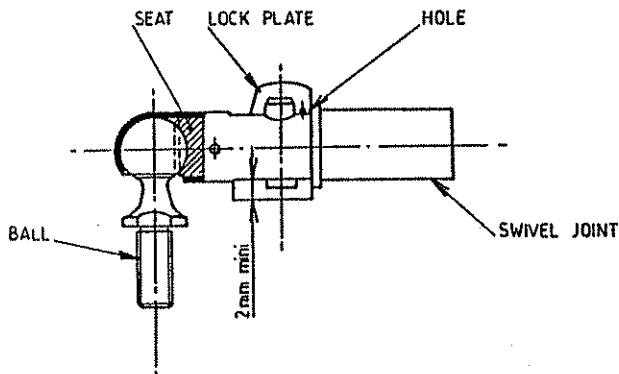

FIG.1
**2-1 Determine ball concentricity (See Fig. 1)**